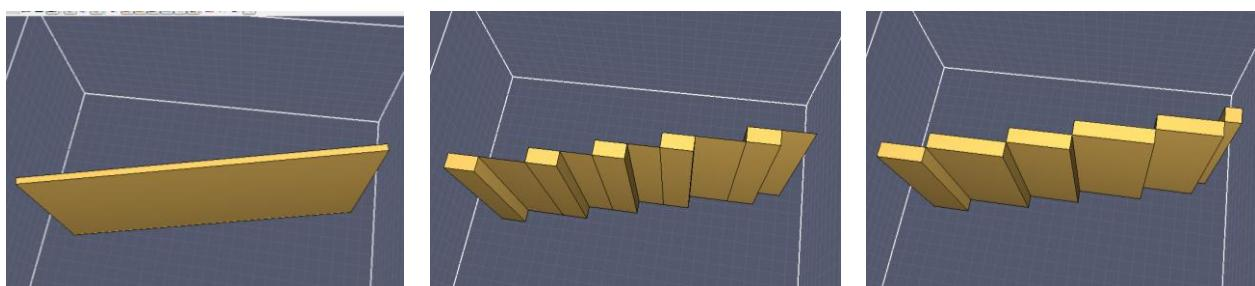

Figure 17.7. Effect of thickening on converted blocks
- **Allow thin obstructions [default]:** Allows objects to become thin as shown in Figure 17.7. This may be overridden for obstructions by turning on **Thicken** in the obstruction properties dialog.¹